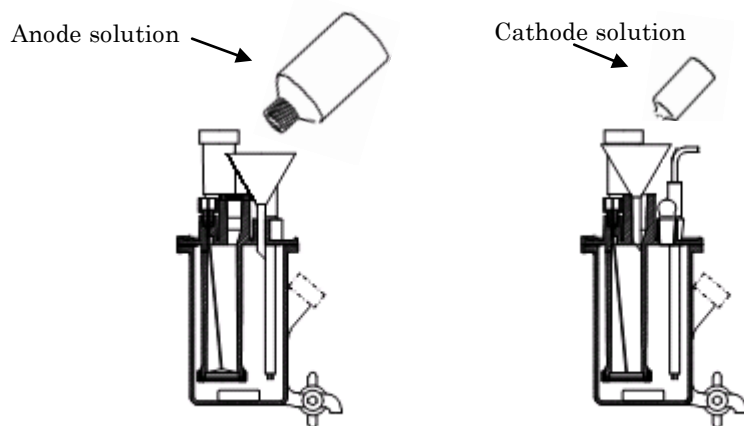
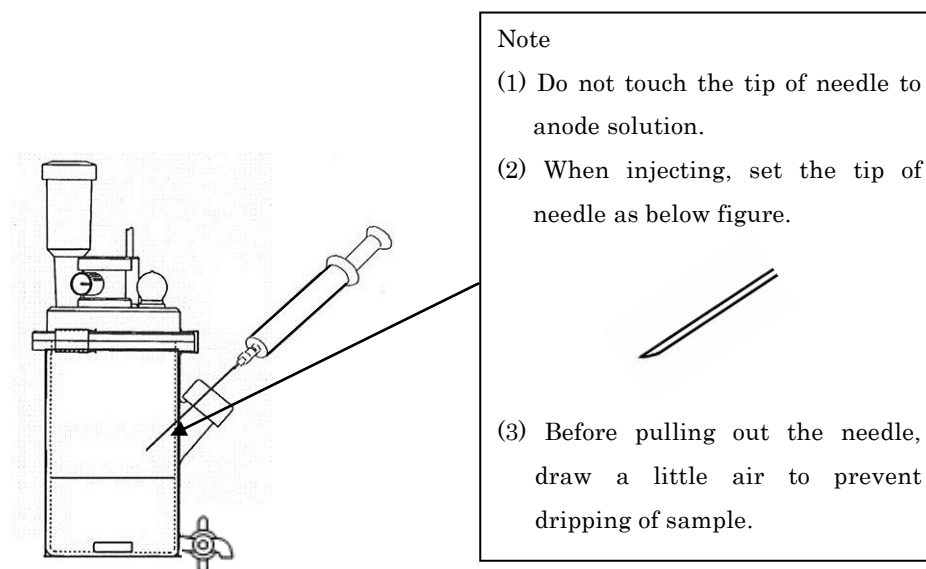

Fig.3.1. Preparation of the reagents.
Fig.3.2. Injection of sample.
- (1) Fill 100 mL of anode solution and one ampoule of cathode solution into the electrolytic cell as shown in Fig.3.1.
- (2) Start blanking to attain stable background.
- (3) Wash the syringe with sample.
- (4) Draw the sample into syringe and then weigh the syringe.
- (5) Inject sample from rubber septum of electrolytic cell as shown in Fig.3.2.
- (6) Start titration. Measurement parameter is shown in Table 4.1.
- (7) Weigh the syringe again and then set the difference of weight to sample size.